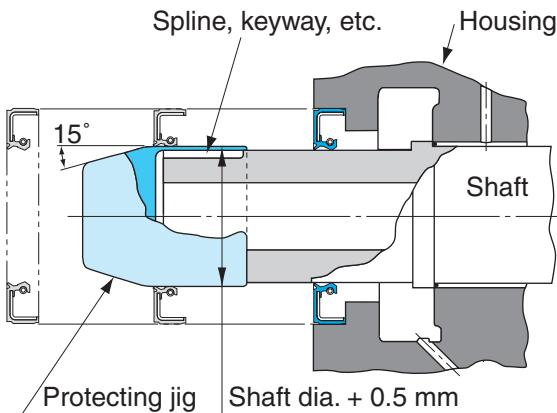

Fig. 1.7.8 Seal protecting jig for spline, keyway, holes on shaft
- 7) In case of shaft has spline, keyway, or holes, use seal protecting jig to prevent lip damage as illustrated bellow (Fig. 1.7.8).